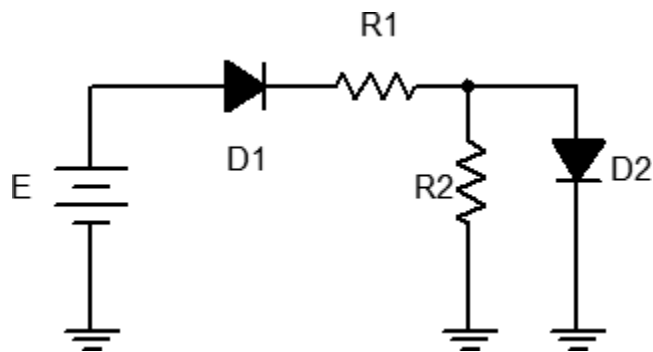

Figure 3
7. Consider the circuit of Figure 3 using  $E = 12\text{ volts}$ ,  $R_1 = 10\text{ k}\Omega$  and  $R_2 = 4.7\text{ k}\Omega$ . Analyze the circuit using the ideal 0.7 volt forward drop approximation and determine the voltages across the two resistors. Record the results in the first two columns of the first row (Variation 1) of Table 3.
8. Build the circuit of Figure 3 using  $E = 12\text{ volts}$ ,  $R_1 = 10\text{ k}\Omega$  and  $R_2 = 4.7\text{ k}\Omega$ . Measure the voltages across the two resistors. Record the results in columns three and four of the first row (Variation 1) of Table 3. Also compute and record the percent deviations in columns four and five.